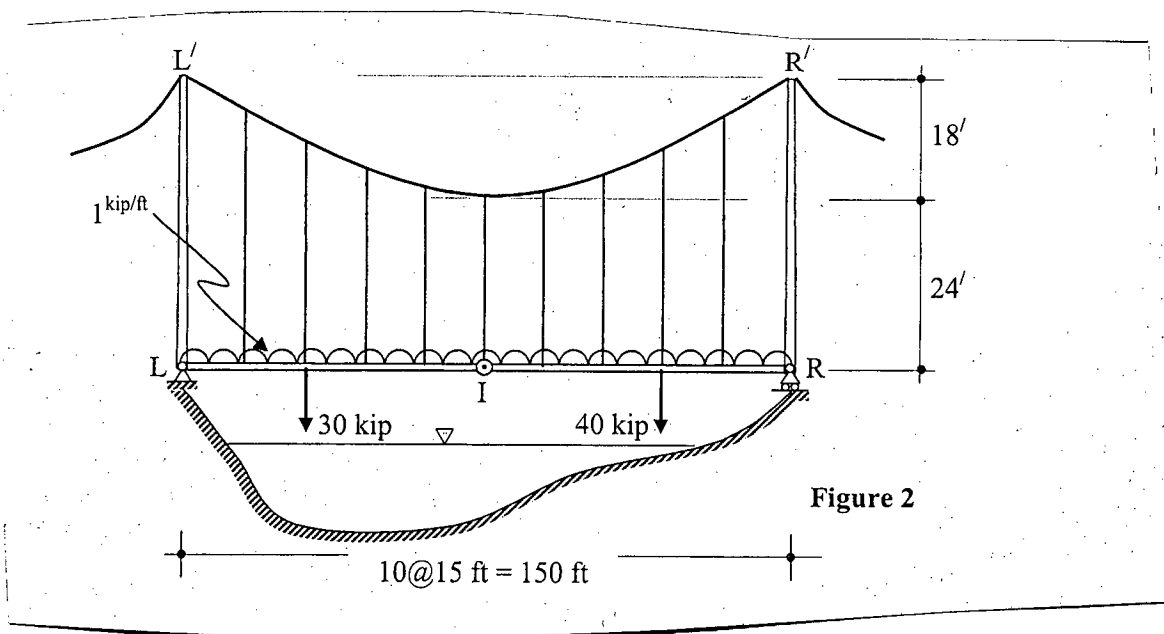

Figure 2
- For the suspension bridge (having a stiffening girder of self-weight = 1 kip/ft), as shown in Figure 2; Determine the followings-